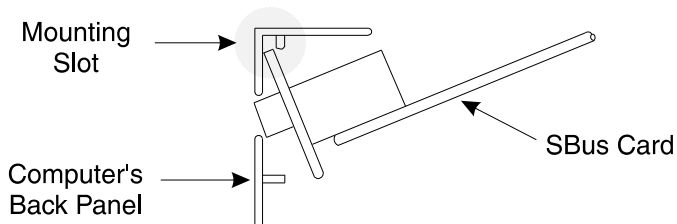

Figure D-22: SBus Card Mounting Slot — Side View
6. Hook the card in the mounting slot located above the rectangular openings in the back panel. Figure D-22 shows a side view of how the card should hook in the mounting slot.